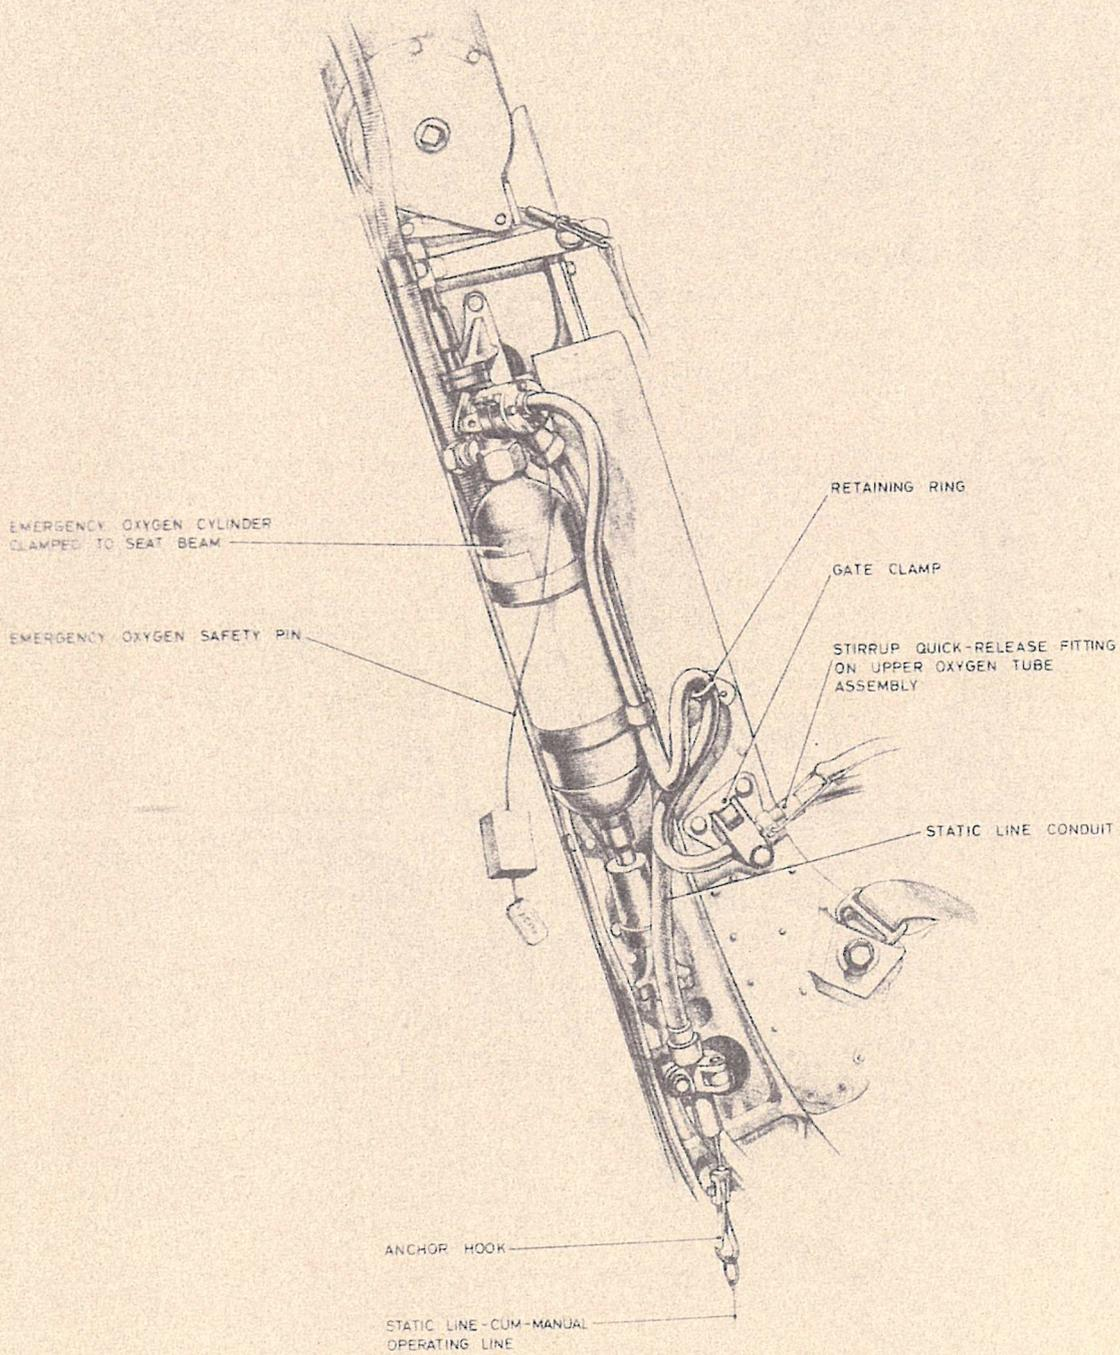

Fig. 1. Arrangement of emergency oxygen supply
22. The following procedure is to be used when equipping the seat: refer to fig. 1 to 3 for detail as necessary :-